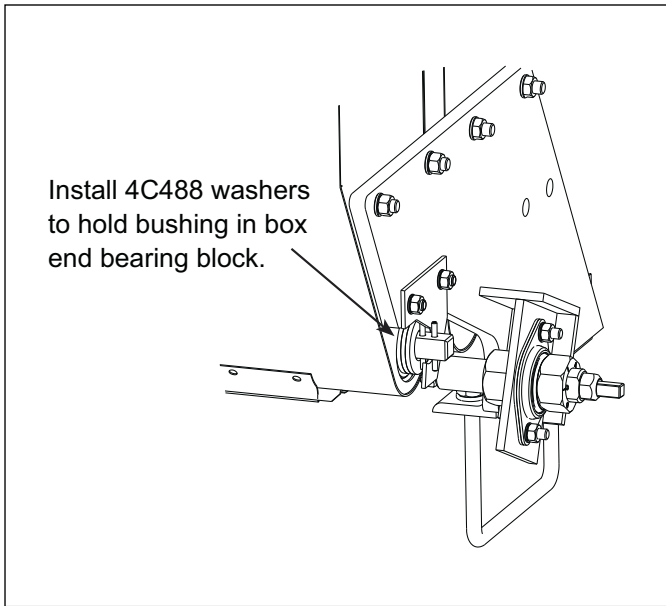

Figure 2-34: Box End Bearing
5. Install 4C488 Washers to hold the bushing. **See Figure 2-34.**